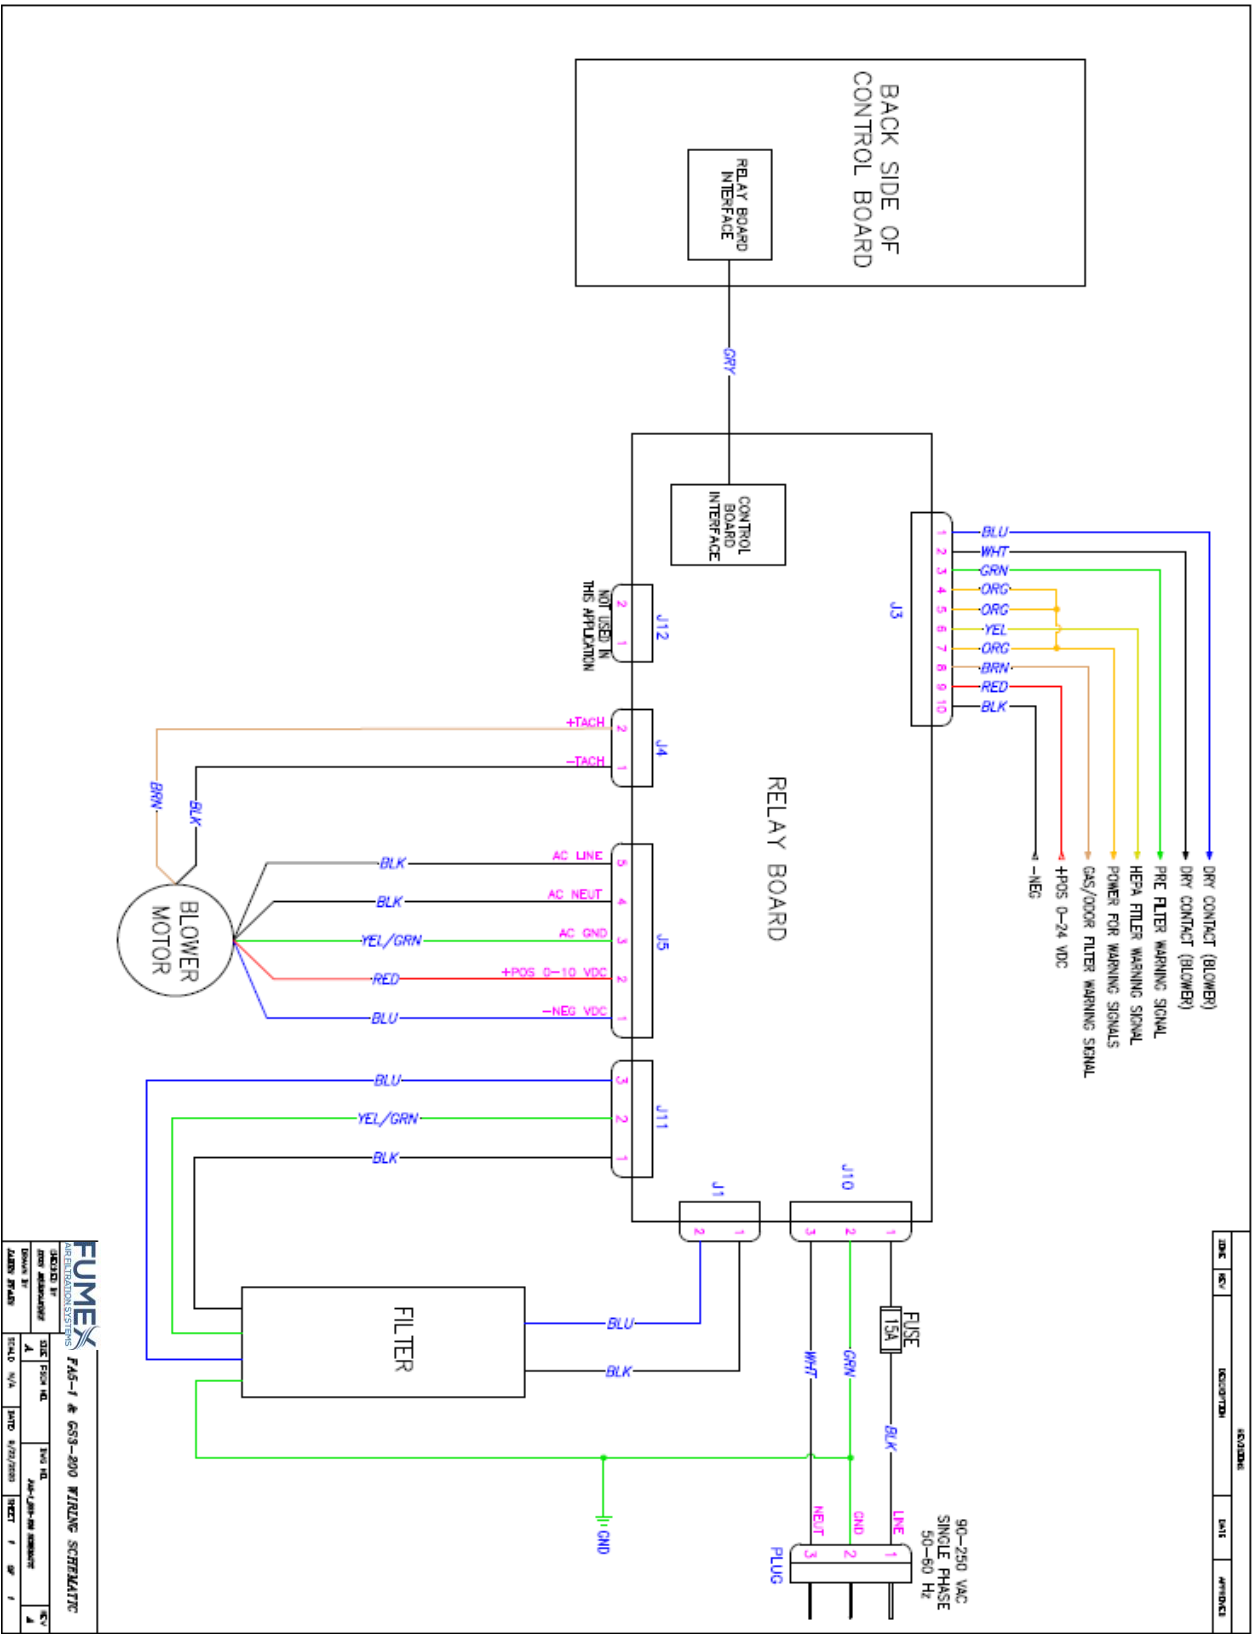

Figure 1
The FA5-1 can be supplied with an optional interface package providing remote start/stop and filter monitoring capabilities (Part # FA227). Please see instructions below for Relay Activation/De-Activation procedures and refer to the drawing in Figure 1 for remote connections.
7. Remove the flash drive and apply 0-24 VDC to the start relay according to the wiring diagram in Figure 1 to start the unit.